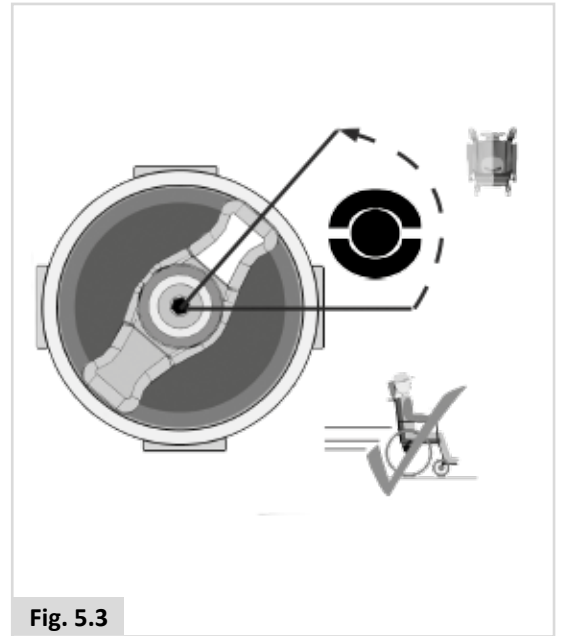

Fig. 5.3
1. For driving the wheelchair. (Fig. 5.3).